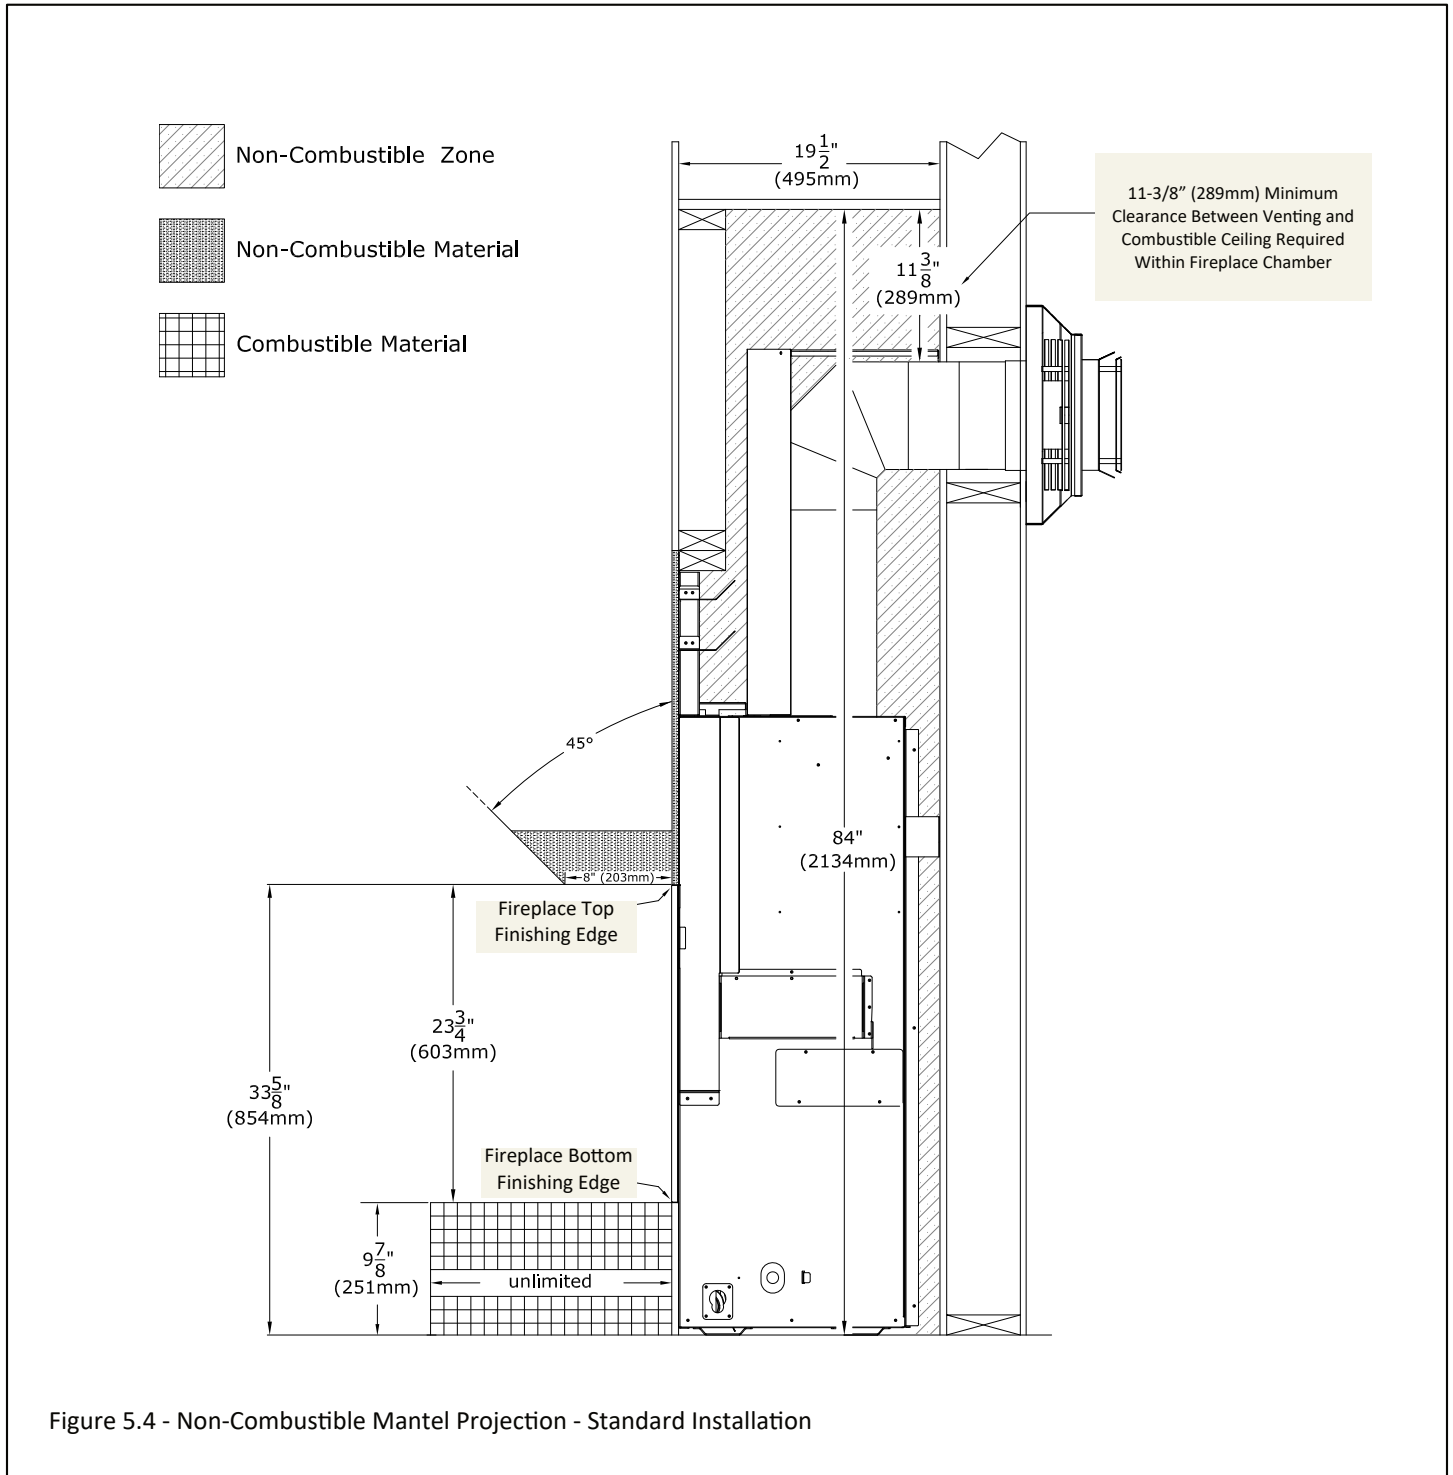

Figure 5.4 - Non-Combustible Mantel Projection - Standard Installation
- Non-combustible Mantel Projections: As referenced in Figure 5.4, the maximum projection of a 8" (203mm) non-combustible mantel can be installed at 0" (0mm) from the fireplace top finishing edge. Follow projection 1" (25mm) up for every 1" (25mm) deeper.
Figure 5.4 shows a 8" (203mm) non-combustible mantel projection flush with the top finishing edge of the fireplace. The dimensions shown are allowed in the standard installation scenario. Mantel projections can increase 1" (25mm) of depth for every 1" (25mm) of height starting at the 8" (203mm) mantel. A combustible hearth is allowed with unlimited projection starting at 0" (0mm) from the bottom finishing edge of the fireplace.